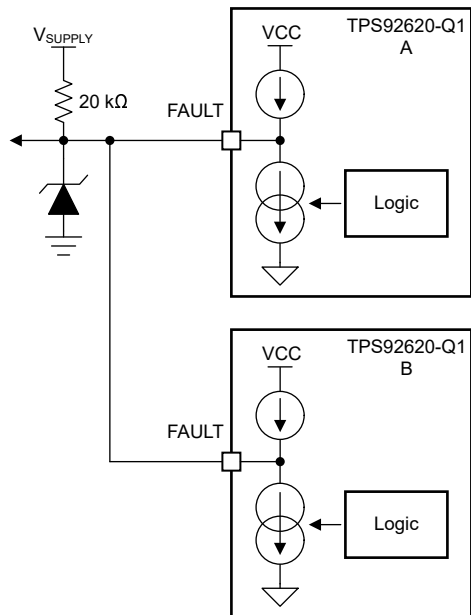
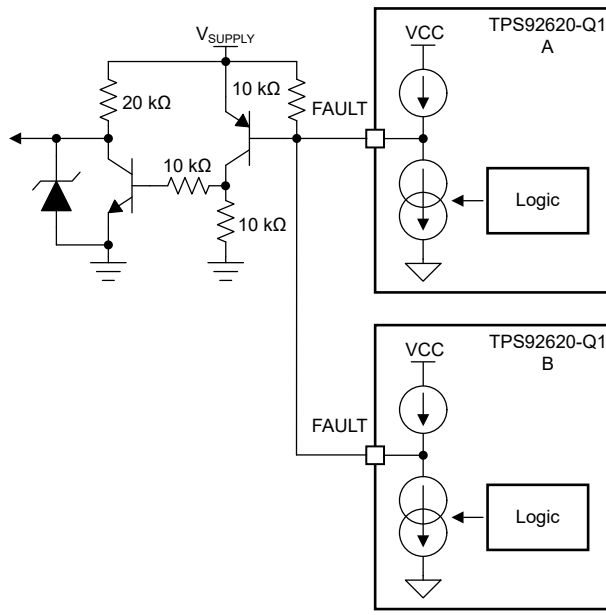

Figure 6-6. FAULT Bus for One-Fails-All-Fail Application
Figure 6-7. FAULT Bus for One-Fails-Others-On Application
Based on this feature, the TPS92620-Q1 device is able to construct a FAULT bus by tying \overline{FAULT} pins from multiple TPS92620-Q1 devices to achieve one-fails-all-fail function as Figure 6-6 showing. The lower side TPS92620-Q1 (B) detects any kind of LED fault and pulls low the \overline{FAULT} pin. The low voltage on \overline{FAULT} pin is detected by upper side TPS92620-Q1 (A) because the \overline{FAULT} pins are connected of two devices. The upper side TPS92620-Q1 (A) turns off all output current for each channel as a result. If the \overline{FAULT} pins of each TPS92620-Q1 are all connected to drive the base of an external PNP transistor as illustrated in Figure 6-7, the one-fails-all-fail function is disabled and only the faulty channel device is turned off.